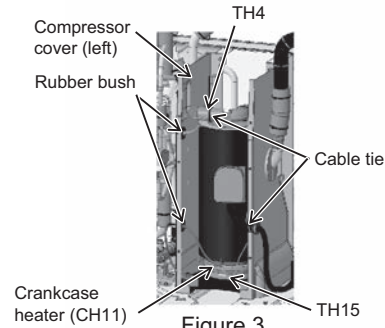

Figure 3
- (3) Cut the two cable ties holding TH4 and TH15, and remove the wiring from the rubber bush on the left compressor cover for TH4, TH15 and the crankcase heater (CH11). (See Figure 3.)